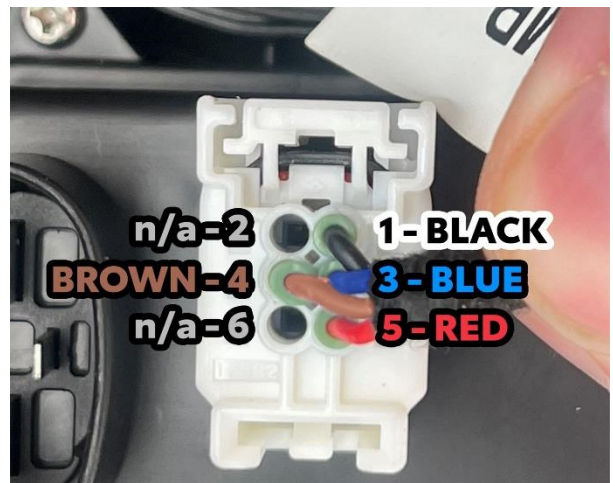

Figure 2 – Wire Cavity
8. Confirm the wires are in the following cavities as illustrated in (Figure 2).